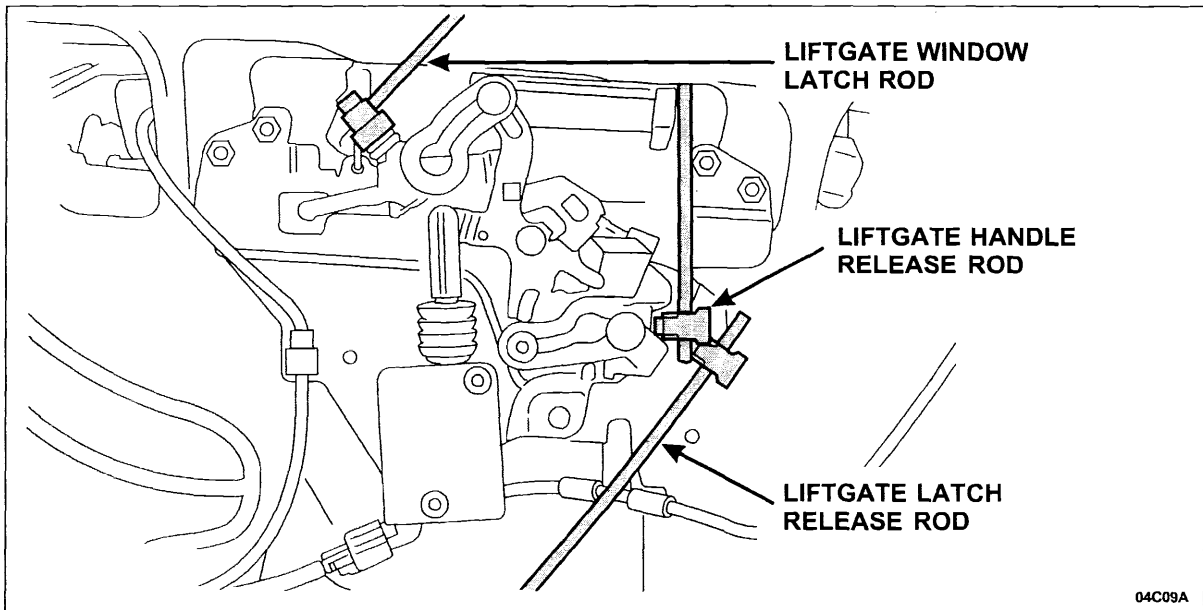

FIGURE 1
3. Remove the four (4) screws and remove the liftgate trim panel.
4. Disconnect the liftgate window latch, liftgate handle and liftgate latch release rods by opening the clips. See Figure 1.
5. Connect the liftgate handle actuating rod and the liftgate window latch release rods. Be sure the latch rods are not binding or putting pressure on the latches when connected. See Figure 1.